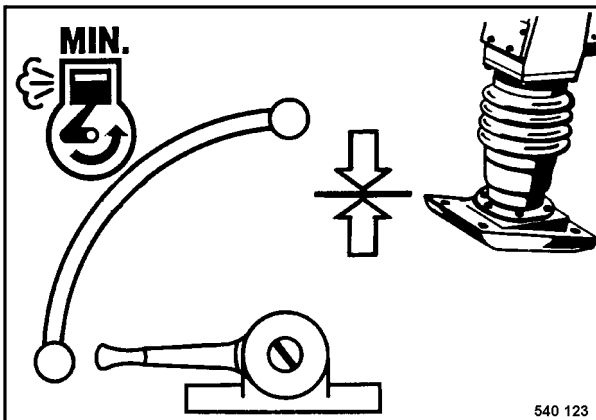

Fig. 5
- During short breaks you should always set the throttle lever to "MIN"-position (Fig. 5).